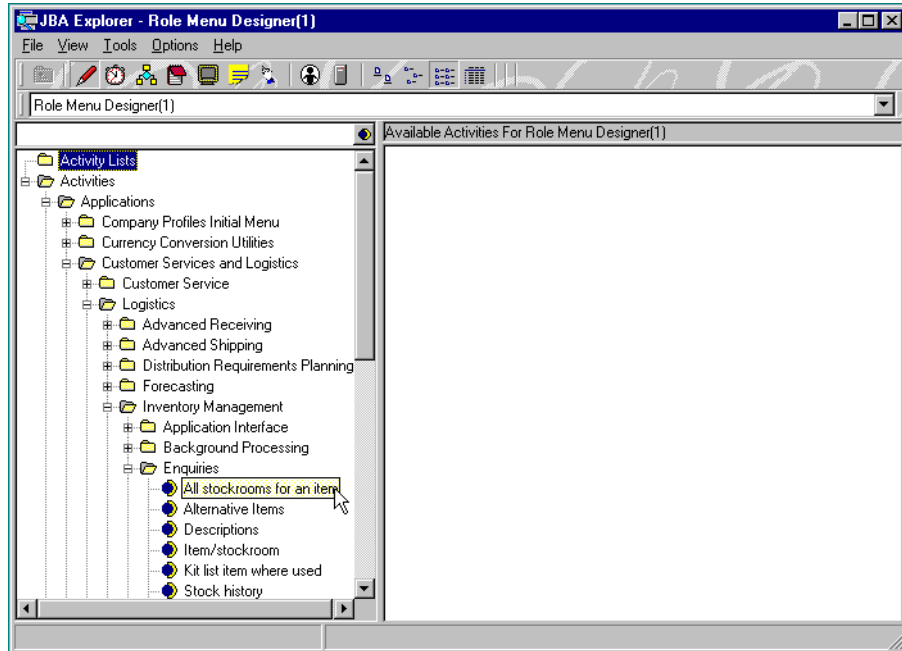

Figure 53. Role menu design - Drag activity
2. Create a new role by clicking **File->New**. There should now be a blank role titled Role Menu Designer(1) on the work space. Activities can be added to the new role by using the Role Menu Designer. This is added to System 21 Explorer by selecting **Tools->Role Menu Designer**. If the Role Menu Designer option is not present, review the 5.5.1, “System 21 Explorer configuration” on page 107.
3. From the Role Menu Designer, click **Activities->Applications->Customer Service and Logistics->Logistics->Inventory Management->Enquiries** as shown in Figure 53.